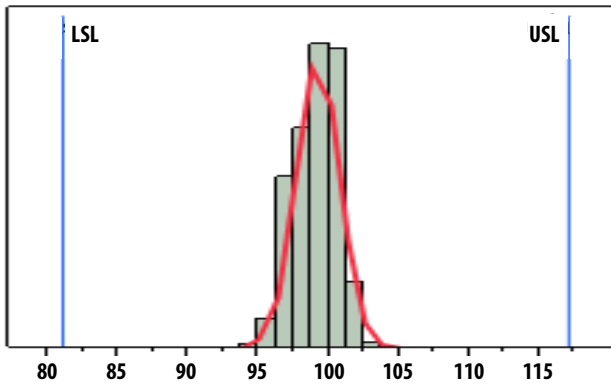

Figure 1. Idd, LSL = 81 mA, nominal = 99 mA, USL = 117 mA
RF performance at T_A = 25° C, V_{dd} = 5 V, 1785 MHz, measured on demo board in Figure 1 with component listed in Table 1 for DC bypass.
1. Measurements at 1785 MHz obtained using demo board described in Figure 1.